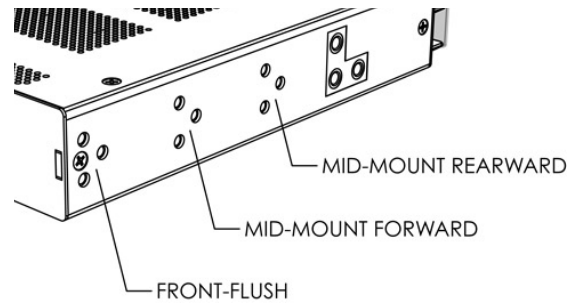

Figure 1. Mounting ear positions
- Step 1.** Select the equipment rack location for installation of the fuse panel. Orient the rack mount ears appropriately for either 19 in. or 23 in. rack and select either the front-flush mount, mid-mount forward, or mid-mount rearward position to install the mounting ears (see Figure 1).